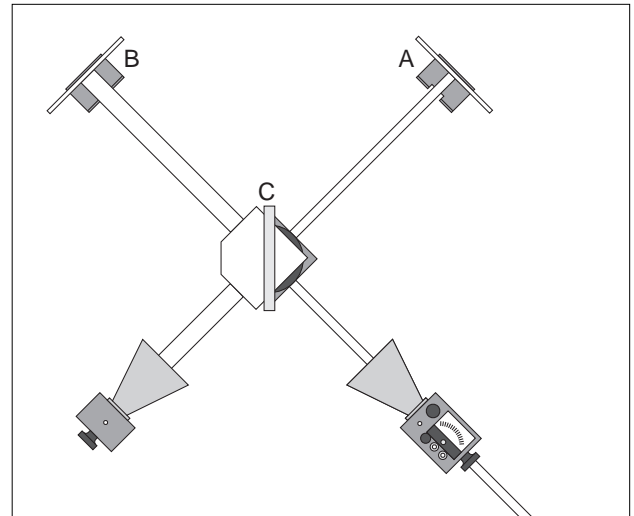

Figure 9.1 Michelson Interferometer
Like the Fabry-Perot interferometer, the Michelson interferometer splits a single wave, then brings the constituent waves back together so that they superpose, forming an interference pattern. Figure 9.1 shows the setup for the Michelson interferometer. **A** and **B** are Reflectors and **C** is a Partial Reflector. Microwaves travel from the Transmitter to the Receiver over two different paths. In one path, the wave passes directly through **C**, reflects back to **C** from **A**, and then is reflected from **C** into the Receiver. In the other path, the wave reflects from **C** into **B**, and then back through **C** into the Receiver.
- ① Arrange the equipment as shown in Figure 9.1. Plug in the Transmitter and adjust the Receiver for an easily readable signal.
- ② Slide Reflector **A** along the Goniometer arm and observe the relative maxima and minima of the meter deflections.
- ③ Set Reflector **A** to a position which produces a maximum meter reading. Record, x_1 , the position of the Reflector on the Goniometer arm.